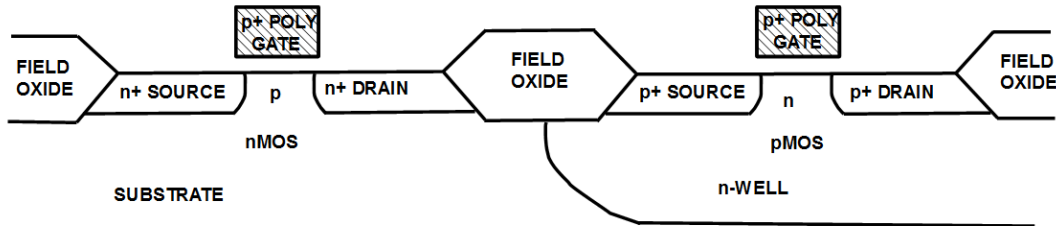

Fig. 6.1
6. Although it has probably never been done commercially, it is possible to develop a CMOS technology in which the nMOS transistors and pMOS transistors both have p+ poly gates as suggested in Fig. 6.1. This unusual approach might actually give higher performance nMOSFETs compared to conventional technology. In Fig. 6.1, suppose that the substrate is uniformly doped with boron and has $10 \Omega\text{cm}$ resistivity. The doping concentration at the surface of the n-well is 10^{16} cm^{-3} . The gate oxide thickness is 25 nm.